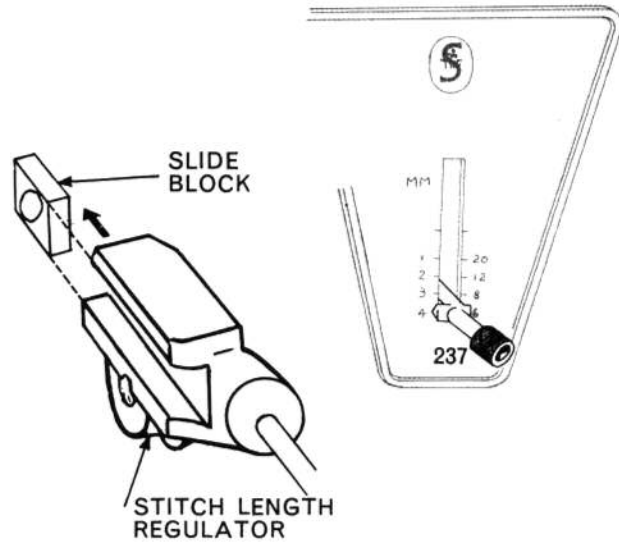

Fig. 25. Stitch Length Regulator.
REMOVAL: (See Fig. 25) ,
1. Install regulator in arm, making certain that regulator fits on slide block of feed forked connection, as shown in Fig. 25.